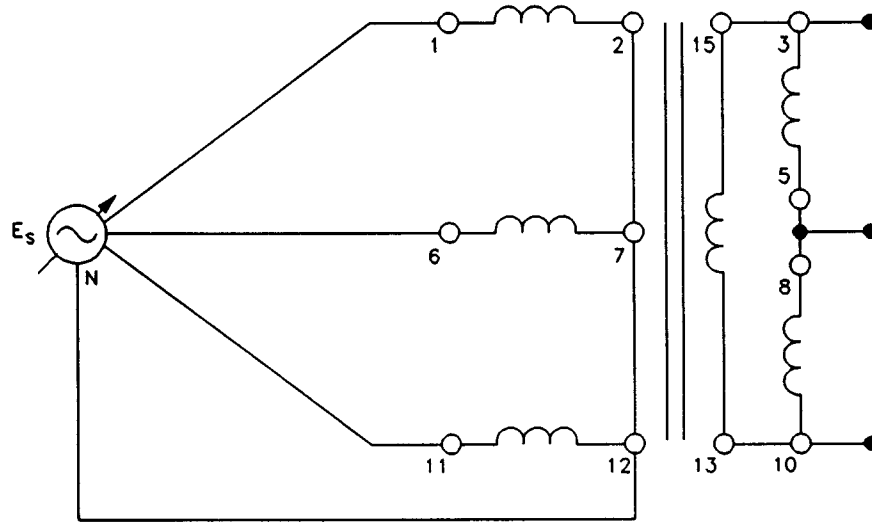

Figure 9-9. Three-Phase Transformer Connected in Wye-Delta.
- 5. Connect the Three-Phase Transformer module in the wye-delta configuration shown in Figure 9-9. Make sure that the voltage within the delta is zero before closing the delta.
- 6. Turn on the power and adjust the voltage control to obtain the line-to-line voltage E_s given in Figure 9-9. Connect E1, E2, and E3 to measure the line voltages at the primary and record the results. Record also the average value of the line voltage given by programmable meter B.